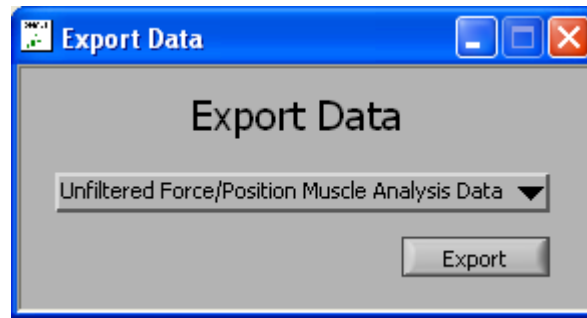

Figure 4: Export Data Window
| Figure 4: Export Data Window | 12 |
- 13) Clicking the Export Data button on the Main Window to open the Export Data window, see Figure 4.